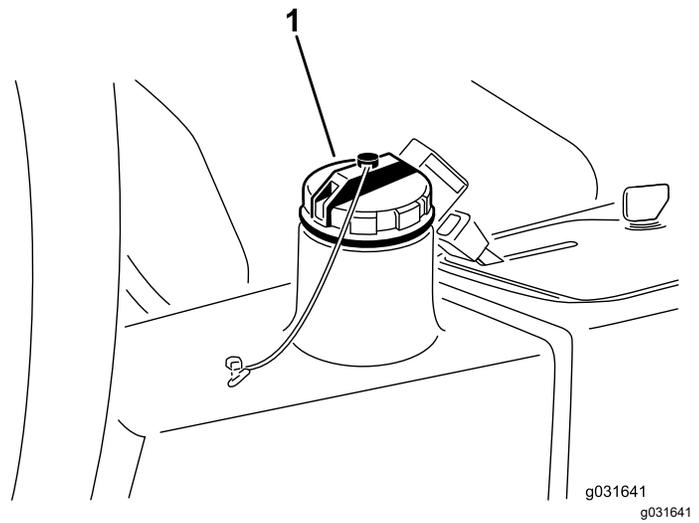

Figure 61
4. Fill the reservoir (Figure 61) with approximately 13.2 L (3.5 US gallons) of hydraulic fluid; refer to Hydraulic Fluid Specifications (page 50) and Checking the Hydraulic Fluid Level (page 50).